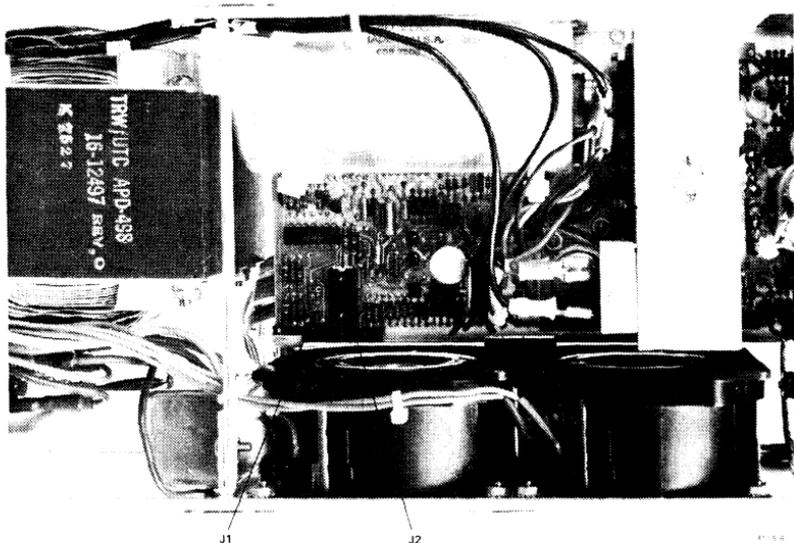
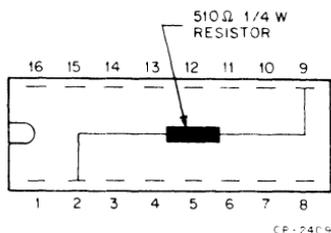
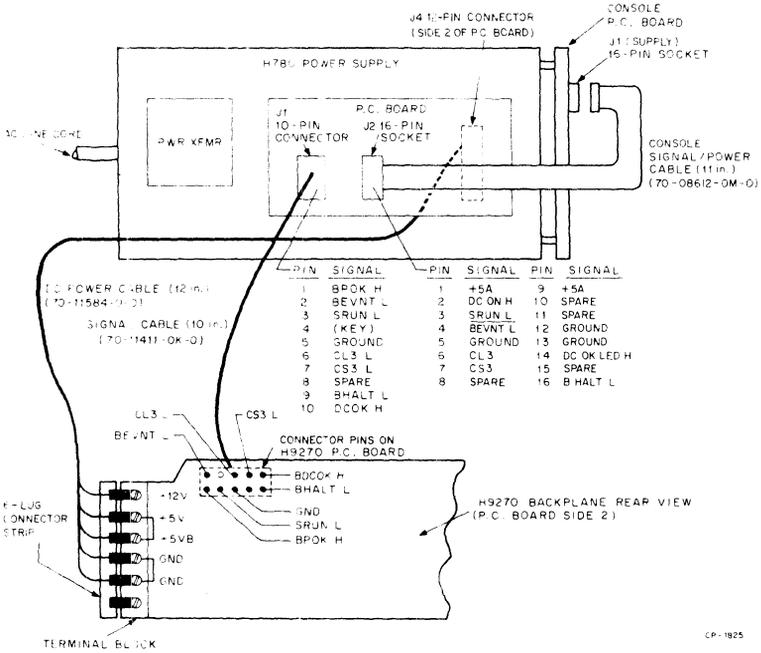

Figure 4-47 Locations of J1 and J2 on Power Supply Board
Figure 4-48 H780-C and -D Enable Plug
Figure 4-51 H780 to H9270 Backplane Connections
**H780-C and H780-D Stand-Alone Operation** – If an H780-C or -D power supply is to be used as a stand-alone supply, a 510  $\Omega$ , 1/4 W resistor must be installed between J2-2 and J2-9 on the power supply printed circuit board (Figure 4-47). The 510  $\Omega$  resistor provides a pull-up level to an internal power supply gate, thus enabling the +5 V and +12 V outputs. This resistor is not required for the H780-K or -L slave supplies, nor is the resistor required for the H780-H and -J supplies. The resistor can be installed by bending its leads and inserting them into socket J2, or by soldering the resistor across pins 2 and 9 of a 16-pin DIP, IC-type male connector. Pinning for the J2 enable plug is shown in Figure 4-48
**Connecting an H780 to an H9270 Backplane** – The H780 power supply is connected to the H9270 by means of two cables. These cables are supplied with the H780. One of these cables is a 25.4 cm (10 in) logic signal cable (DIGITAL part number 70-11411-0K-0), which connects from J1 on the power supply board (Figure 4-47) to connector pins on the H9270 printed circuit board (Figure 4-51). Either end of this cable can be connected to the power supply or the backplane. The other cable is a 30.5 cm (12 in) dc output cable (part number 70-11584-0-0). This cable is terminated at one end with a keyed, 12-pin connector which mates with J4 on side 2 of the H780 power supply board. Figure 4-52 shows the location of J4; Figure 4-53 shows J4 pinning. The remaining end of the dc output cable is terminated with a 6-lug connector strip which is connected to the H9270 backplane terminal block.
as shown in Figure 4-51. When connecting the 6-lug connector strip to the H9270 backplane, make sure that the spade lug connectors are facing up. Figure 4-54 shows the dc output cable connected to J4 of the H780. The H780 logic signal and dc output cables are routed toward the rear of the power supply and exit from the supply chassis next to the H9270 backplane terminal block.
H780-H, -J, -K, and -L power supplies have a console that is attached to the H780 and connected to the supply by means of a console signal/power cable (part number 70-08612-0M-0). This cable is factory-installed from J2 on the power supply board (Figure 4-47) to J1 on the console PC board (Figures 4-51 and 4-55).
Figure 4-55 shows the console printed circuit boards and the locations of the J1 (SUPPLY), J2 (REMOTE), and J3 connectors. J1 is always connected to J2 of the power supply printed circuit board (Figure 4-51) by the console signal/power cable (part number 70-08612-0M-0) which is factory-installed. Pinning for J2 (REMOTE) on the console printed circuit board is shown in Figure 4-56. Pinning for J2 on the power supply printed circuit board is indicated in Figure 4-51.
2. Using a DVM, measure the +12 V output at the system backplane terminal block (Figure 4-51).